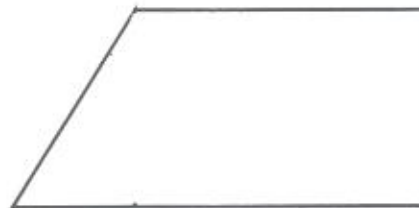
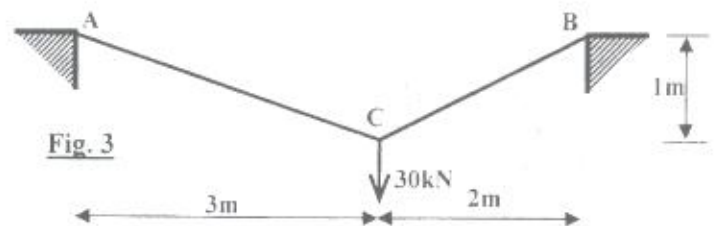

Fig. 4
Fig. 3
**Question No. (5) (14 point)**
- (b) If a reinforced concrete combined footing with thickness ( $T = 70$  cm) was design for the two columns shown in figure 3:
**Question No. (6) (14 point)**
- (b) For the two columns shown in figure 3, if there is an obstruction preventing the projecting of the footing beyond the outer face of the right column you are required to:
**Question No. (5) (12 point)**
**Question No. (6) (11 point)**
- (a) For the shown plan of ribbed raft footing in figure 4, you are required to discuss in details:
VII- What are the tension structures? Illustrate using sketches, the load transfer of the suspension bridges. The cable shown in Fig. 3 is pinned to supports at A and B and carry a concentrated load of 30kN at point C. Calculate the tension in each part of the cable and the reactions at the supports. (6 marks)